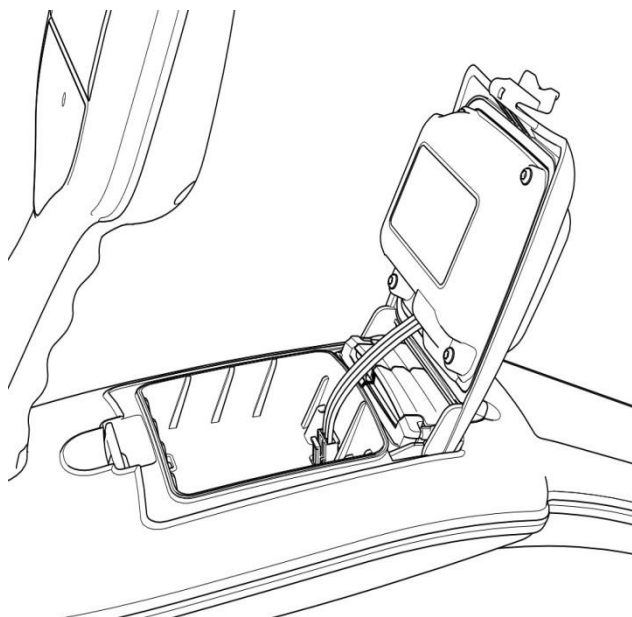

Figure 3.1 Li-ion battery pack connection
- 2 Un-plug the battery lead connector (fig.3.1)